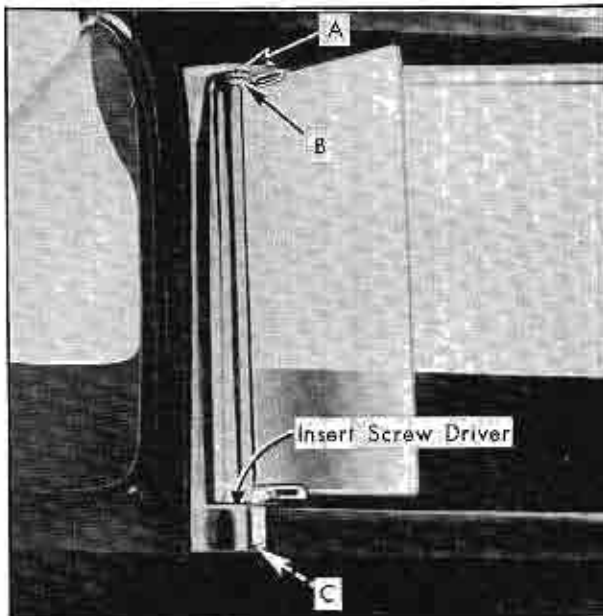

Fig. 3-30 Wing Assembly Adjustment
1. To adjust the effort required to rotate the wing assembly, loosen or tighten screw "C", Fig. 3-30, until desired tension is obtained.